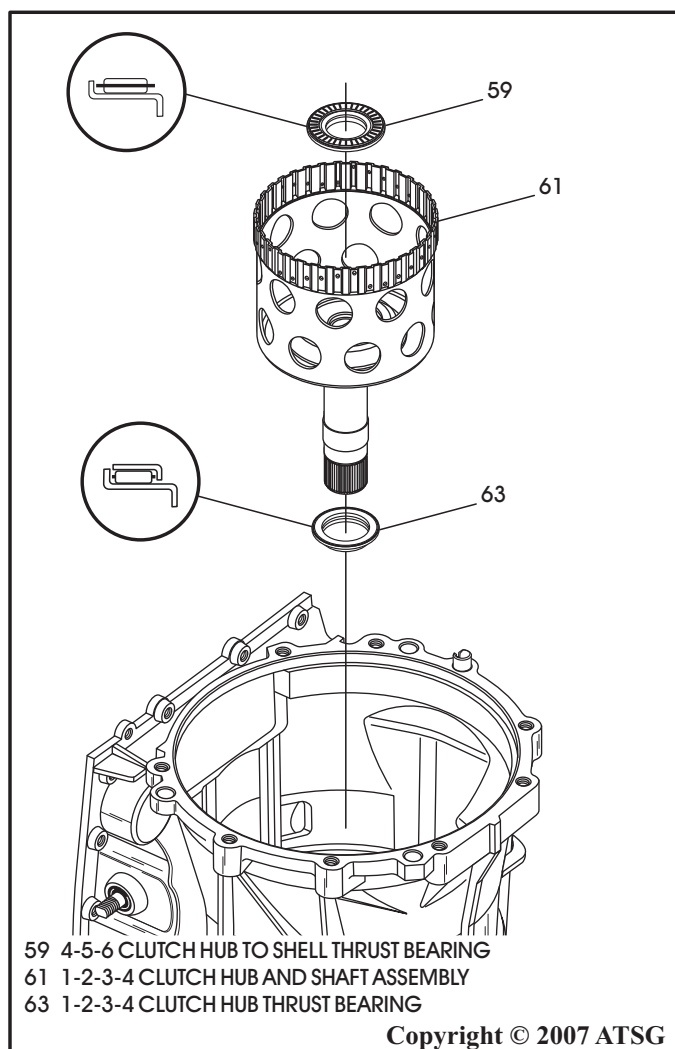

Figure 158
11. Install the 1-2-3-4 clutch hub thrust bearing in direction shown in Figure 158.
12. Install 1-2-3-4 clutch hub and shaft assembly, as shown in Figure 158.
13. Install 4-5-6 clutch hub to shell thrust bearing in direction shown in Figure 158.